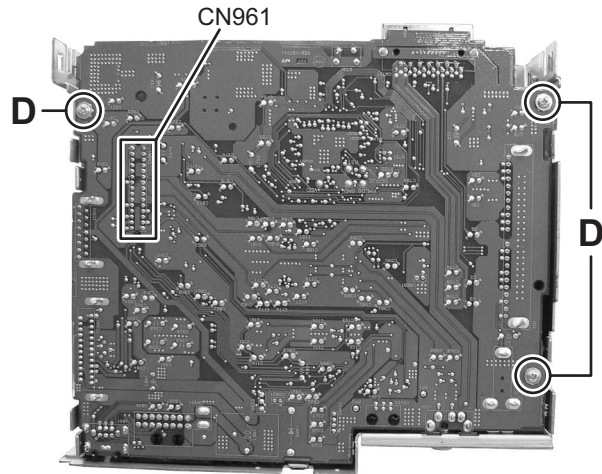

Fig.4
### 3.1.4 Removing the Main board assembly (See Fig.4 and 5)
- (1) Remove the three screws **D** attaching the Main board assembly. (See Fig.4)
- (3) Disconnect the connector CN961 connected to DVD mechanism assembly. (See Fig.4)